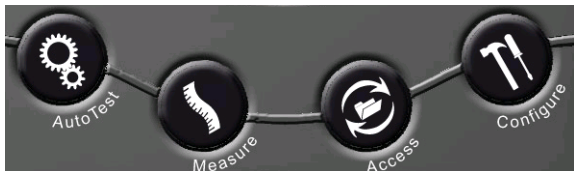
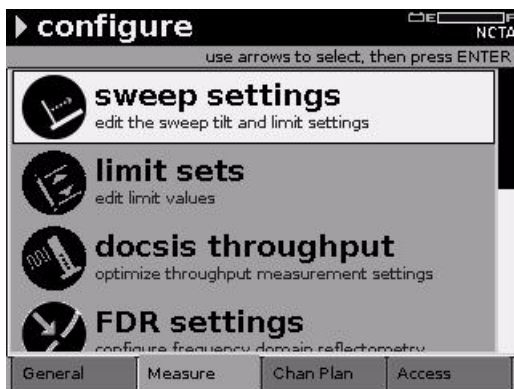
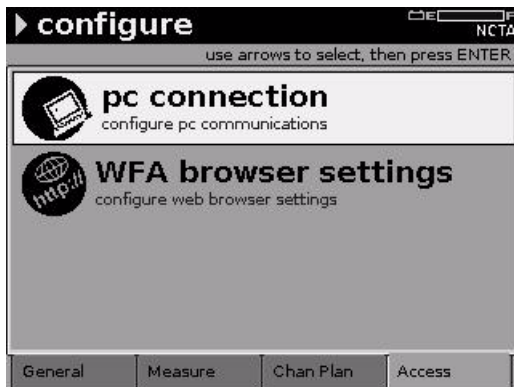

Figure 5 DSAM Meter Mode Keys
Figure 12 Configure Mode Measure Menu
Figure 14 Configure Mode Access Menu
- Four **Mode** keys (Figure 5) used to access the meter's four primary functional modes
Using the mode keys Use the mode keys (Figure 5) to directly access the top level menu of features associated with each mode.
Selecting a Configuration Mode To view the Configure General menu (see Figure 11 on page 24), press the **Configure** mode key (Figure 5 on page 18), then press the **General** softkey.
Measurement Configuration To view the Configure Measure menu (Figure 12 on page 26), press the **Configure** mode key (Figure 5 on page 18), then press the **Measure** softkey.
To view the Configure Channel menu (Figure 13), press the **Configure** mode key (Figure 5 on page 18), then press the **Channel Plan** softkey.
Access Configuration To view the Configure Access menu (Figure 14), press the **Configure** mode key (Figure 5 on page 18), then press the **Access** softkey.